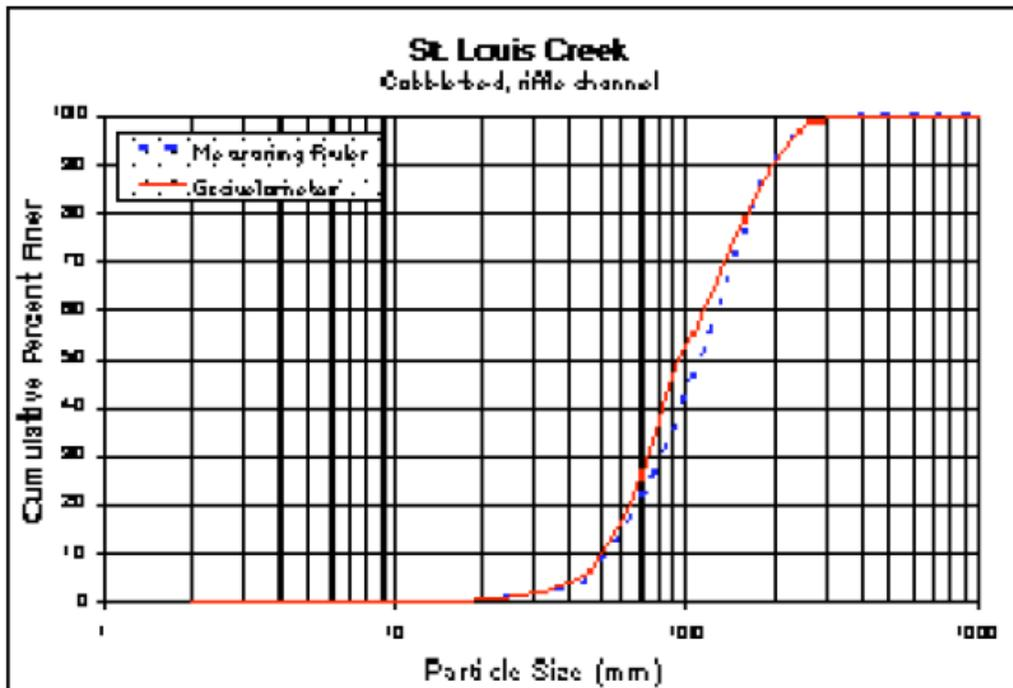

Figure 3. Comparative Pebble Counts
U.S. Forest Service research geomorphologist, Sandra Ryan, stationed in Laramie, Wyoming, compared gravelometer pebble counts with data obtained using a ruler. Sampling along an established grid, Sandra measured the same 100 particles on several reaches of St. Louis Creek on the Fraser Experimental Forest with a gravelometer and a ruler during 1995. Typical results for a cobble-bed riffle reach are displayed in Figure 3.